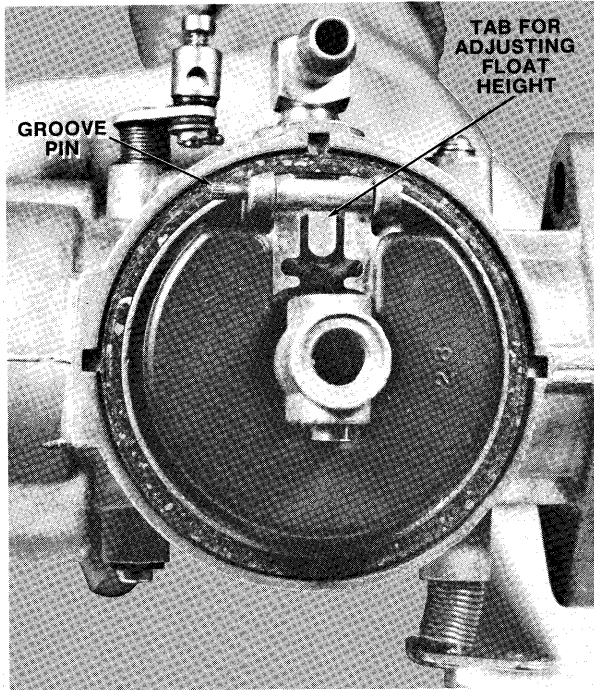

Figure 6—Installing Groove Pin
- B. Examine groove pin and note that there are grooves only at one (1) end of pin. Install groove pin as shown in figure 6.
If adjustment is necessary, bend tab on float as shown in figure 6.